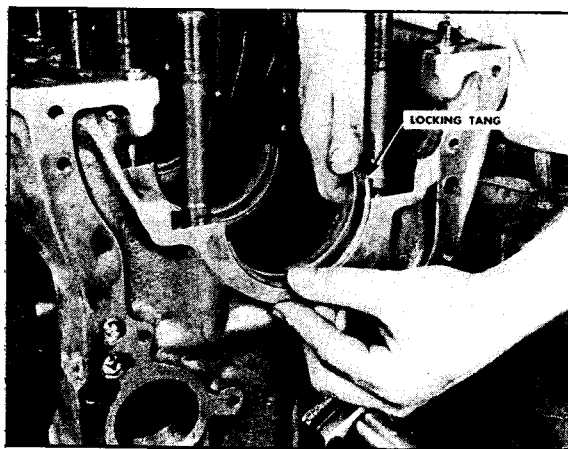

Fig. 12-1. Placing upper main bearing shells
3. Lay an upper main bearing shell in each block bore so the locking tang is engaged with the recess in the block, and the drilled holes in the shell and block index. Fig. 12-1.